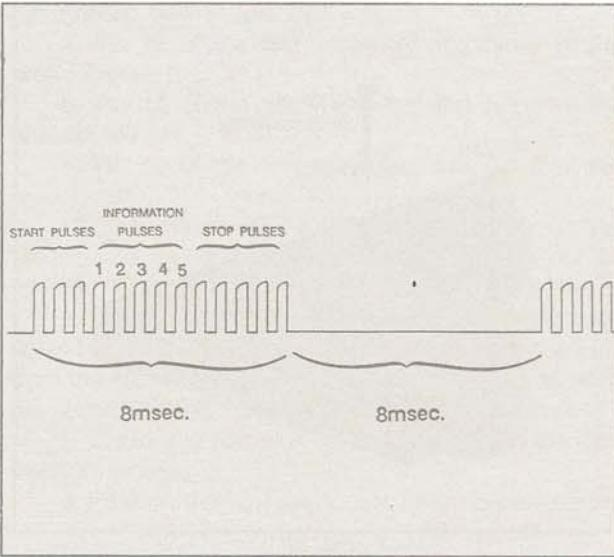

FIG. 12
With none of its input switches activated, the transmitter's Encoder IC produces an output signal identical to the one illustrated in Fig. 12. The signal consists of repetitive bursts of pulses generated at fixed intervals. Each burst of pulses contains the same number of pulses. The information about the condition of the five switches is ENCODED in the pulse information. In other words, the condition of each switch is represented by one of the pulses in the pulse train. In addition to the five pulses corresponding to the switch information, the IC also generates a fixed number (3) of START pulses, just prior to the coded pulses, and a fixed number (5) of STOP pulses, which follow the coded